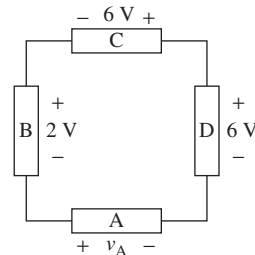

FIGURE P2.29 Circuit for Problem 2.29.
2.29 (B) Find v_A in Figure P2.29: